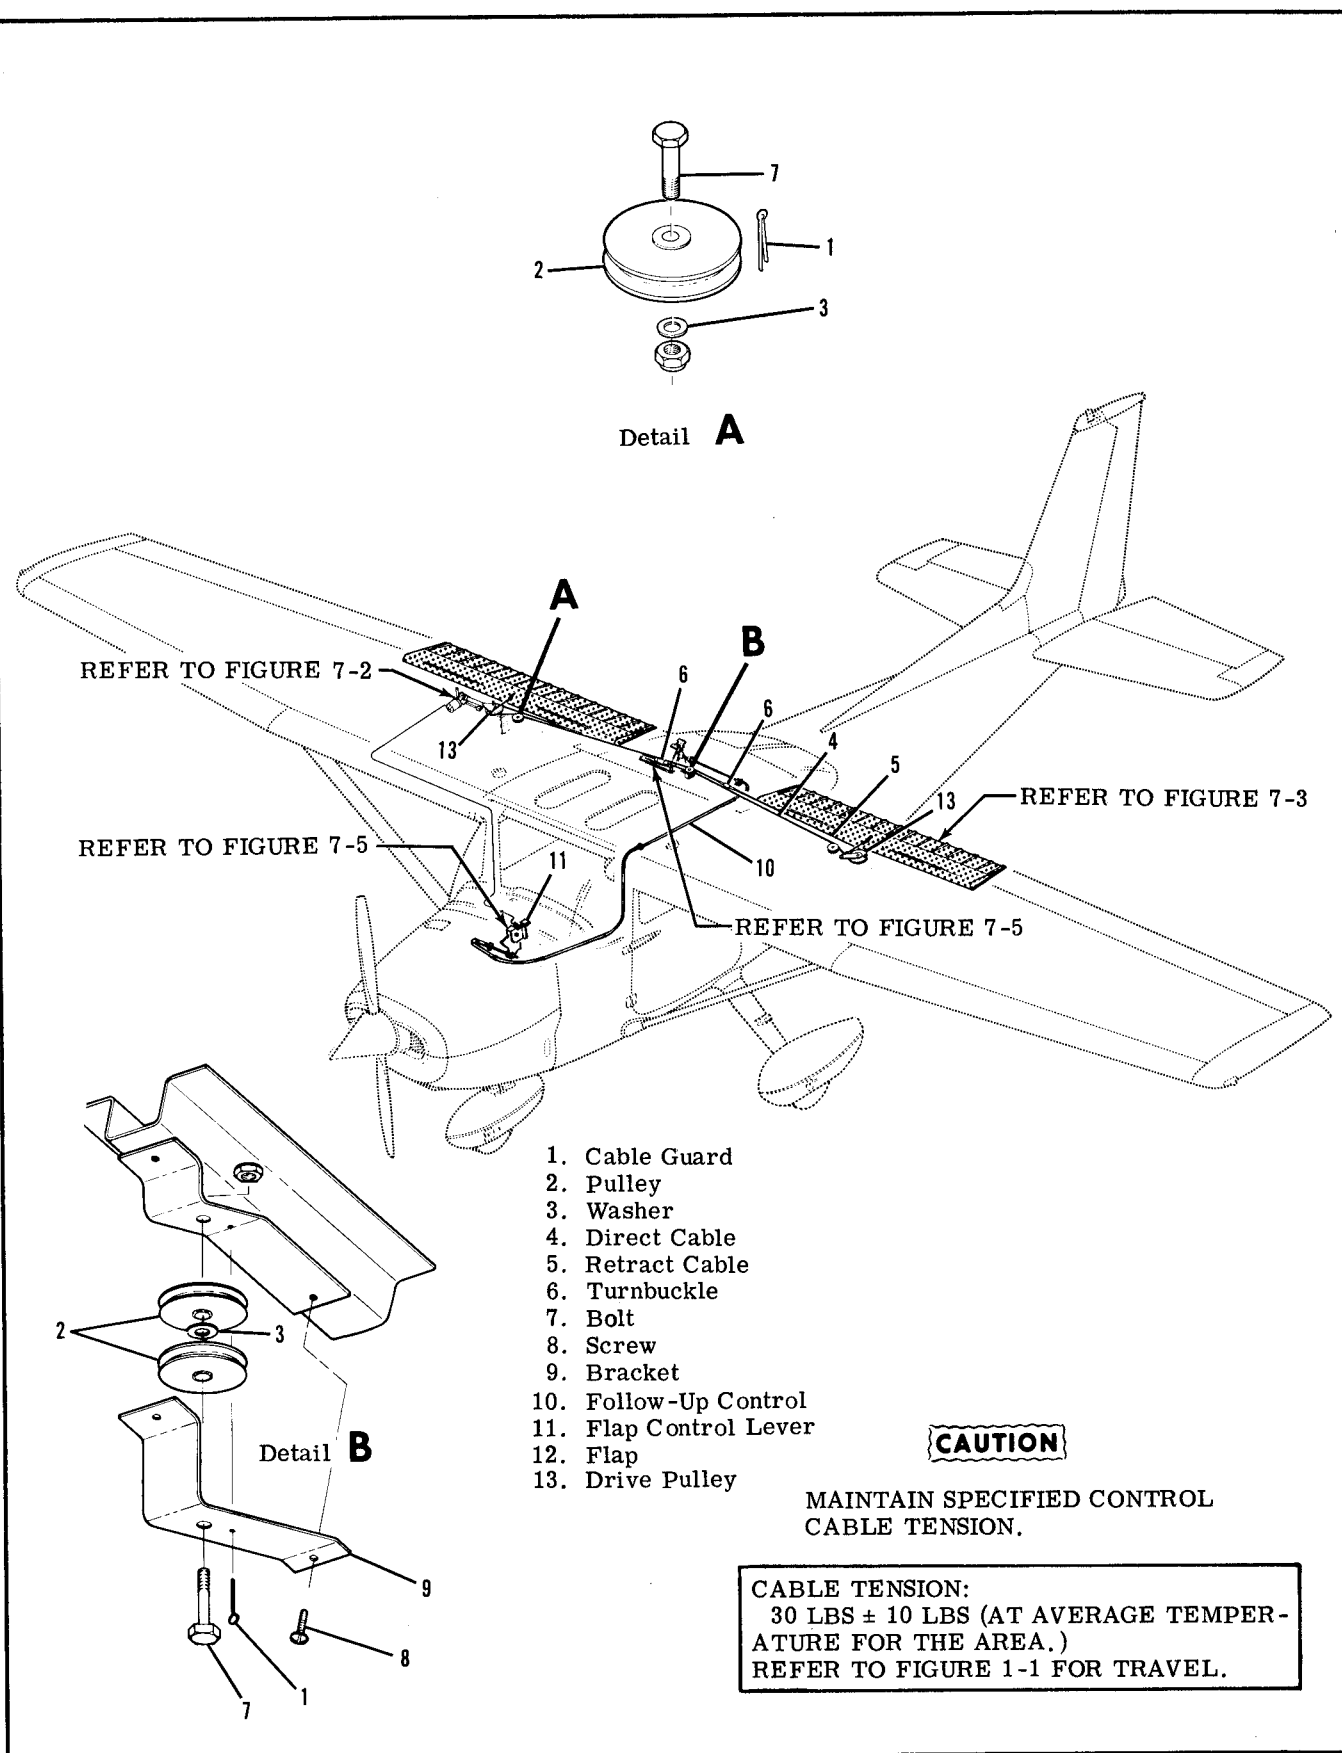

Figure 7-1. Wing Flap Control System
7-1. WING FLAP CONTROL SYSTEM. (Refer to figure 7-1.)
- Remove access plate adjacent to drive pulley (14) in right wing.
- Unzip or remove headliner as necessary for access to turnbuckles (index 6, figure 7-1), remove safety wire and loosen turnbuckles.
- Remove bolt (20) securing flap push-pull rod (15) to drive pulley (14) and lower RIGHT flap gently.
- Remove bolt (21) securing actuating tube (5) to
#### 7-14. CABLES AND PULLEYS. (Refer to figure 7-1.)
- a. (Refer to figure 7-1.) Unzip or remove headliner as necessary for access to turnbuckles (6).
- c. (Refer to figure 7-1.) Remove safety wire, relieve cable tension, disconnect turnbuckles (6) and carefully lower left flap.
Temporarily connect cables at turnbuckles (index 6, figure 7-1) and test flaps by hand to ensure both flaps extend and retract together. If they will not, the cables are incorrectly attached to the drive pulleys. Ensure that the right drive pulley rotates clockwise when viewed from below, as the flaps are extended. Tag cables for reference and disconnect turnbuckles again.
l. With flaps in full UP position, loosen setscrew (27) and slide up limit switch adjustment block (28) on support (31) to just activate switch and shut off electrical power to motor at this position. Tighten setscrew.
m. Manually hold LEFT flap, full UP and connect control cables at turnbuckles (index 6, figure 7-1). Remove reference tags previously installed in step "f".
n. With flaps full UP, adjust turnbuckles to obtain  $30 \pm 10$  pounds tension on cables. Adjust retract cable (19) first.